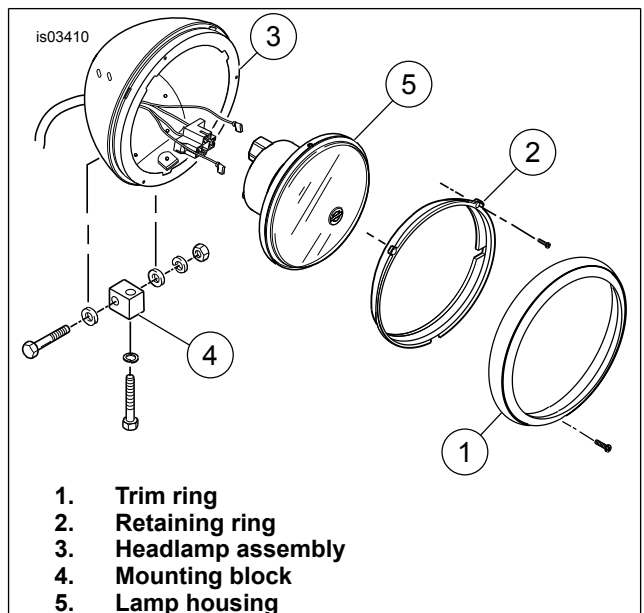

Figure 1. Headlamp Assembly
1. See Figure 1. Remove trim ring screw and trim ring (1).
7. See Figure 1. Remove the mounting block (4) and mounting block hardware.